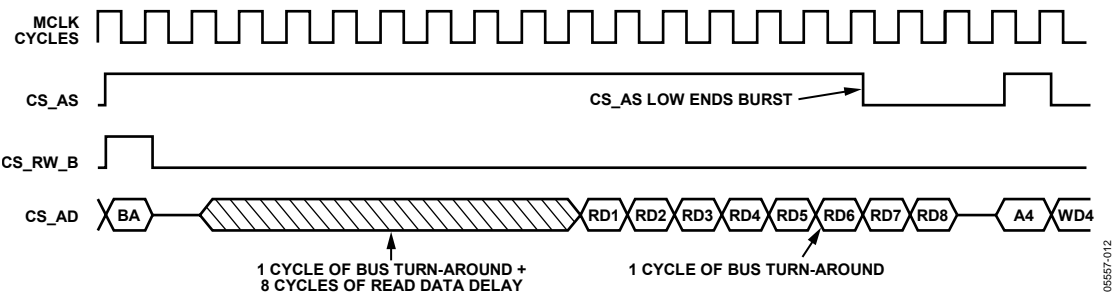

Figure 18. Read Burst Mode Functional Timing
- There must be at least two MCLK cycles between a read burst followed by another read or write transaction, and between the address and read data cycles due to bus turnaround. The ADATE207 tristates the bus on the MCLK after it is finished driving read data, as shown in Figure 18.